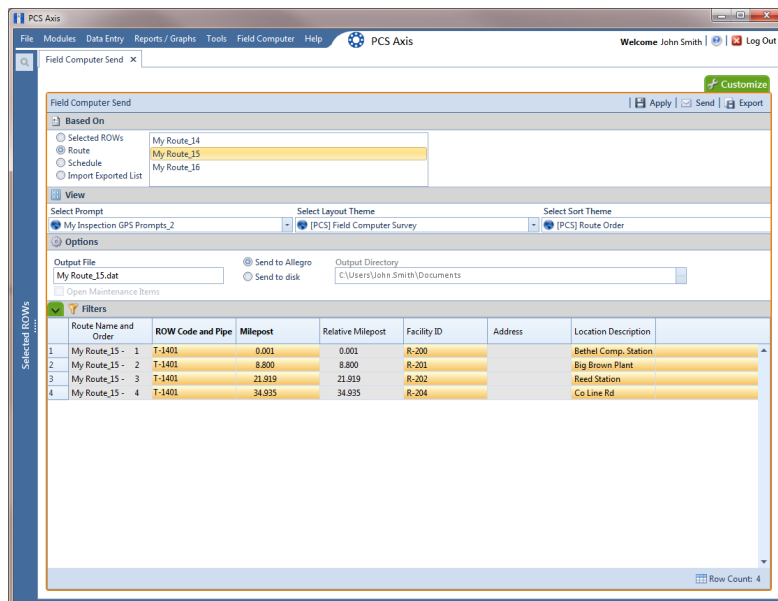

Figure 8-44. Field Computer Send
- 19 Click the **Route** option and select a route in the selection box. Then click  **Apply** to update the grid (Figure 8-44).
- a** Click the  **Filters** tab to open the *Filters* panel (Figure 8-44).